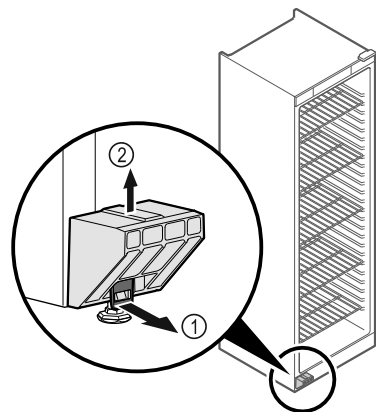

Fig. 5
- ▶ Pull tab Fig. 5 (1) forwards.
- ▶ Take off transport lock Fig. 5 (2) in upwards direction.